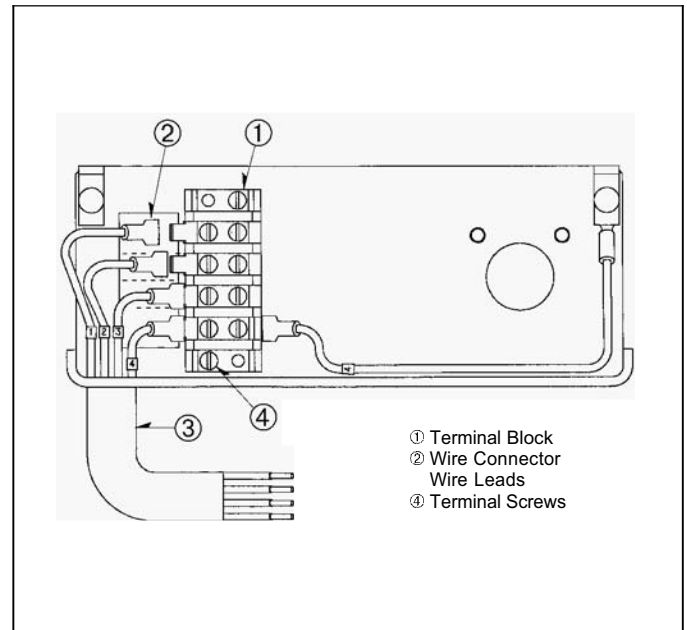

Fig. 2-4. Terminal Block and Wire Leads
- 2-6. The motor operator is equipped with a terminal block and 30-in. long wire leads. If it is desirable to change wire leads, just pull out the wire connector, and connect the new wire leads to the screws or tabs of the terminal block. (See Fig. 2-4 page 3.)